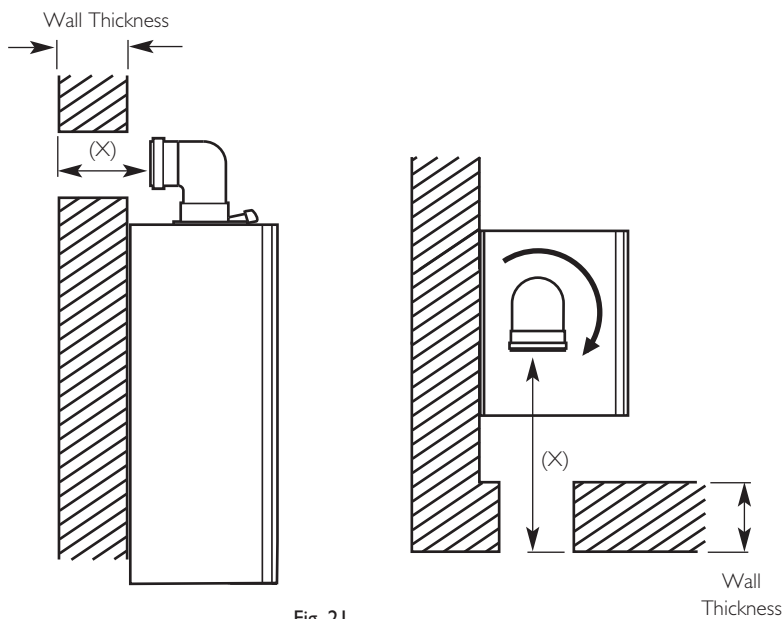

Fig. 21
3. Locate the flue elbow on the adaptor at the top of the boiler. Set the elbow to the required orientation (Fig. 21).
4. Measure the distance from the outside wall face to the elbow. This dimension will be known as 'X' (Fig. 21).
5. If the distance from the flue elbow to the outside face of the wall ('X' in Fig. 21) is less than 250mm the Connection Assembly can be discarded and the Terminal Assembly fitted directly into the elbow.
6. In instances where the dimension 'X' (Fig. 21) is between 250mm and 315mm it will be necessary to shorten the Terminal Assembly by careful cutting to accommodate walls of these thicknesses.